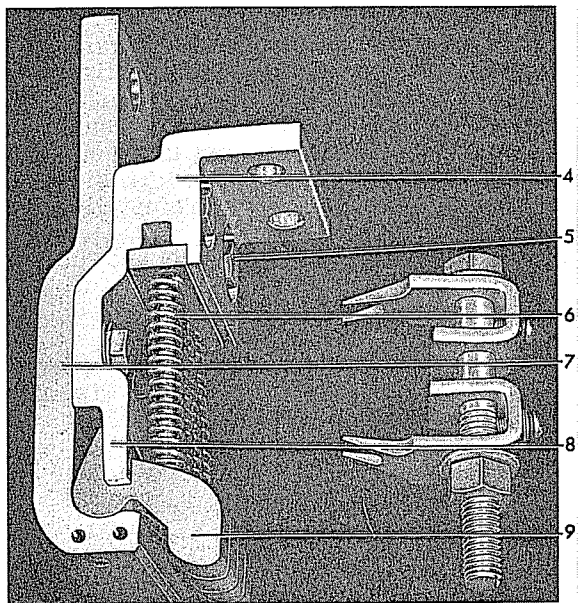

Figure 24C (8034469)
4. Place washer (not shown) on guide on top of spring, place top of guide into hole in spring retainer (4) and the round end of spring guide in cutout in primary finger (Figure 24C).